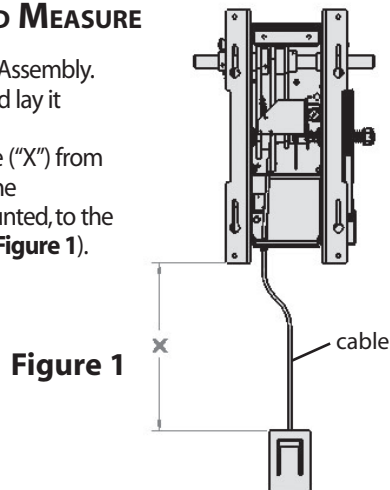

Figure 1
- Measure the distance ("X") from the position where the Operator will be mounted, to the Egress Box location (Figure 1).